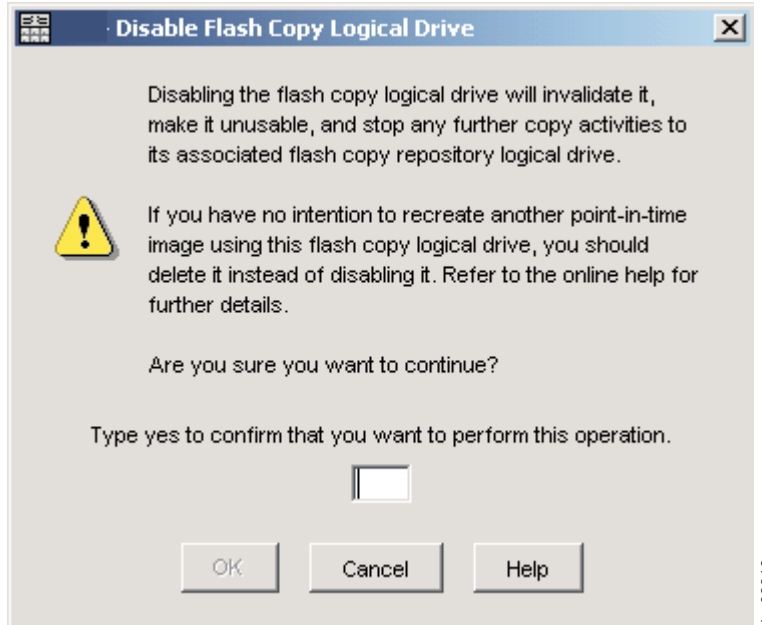

Figure 18. Disable FlashCopy confirmation window
2. The Disable FlashCopy Logical Drive confirmation window opens, as shown in Figure 18 on page 48. In this window, type Yes and click **OK** to begin the disable operation.